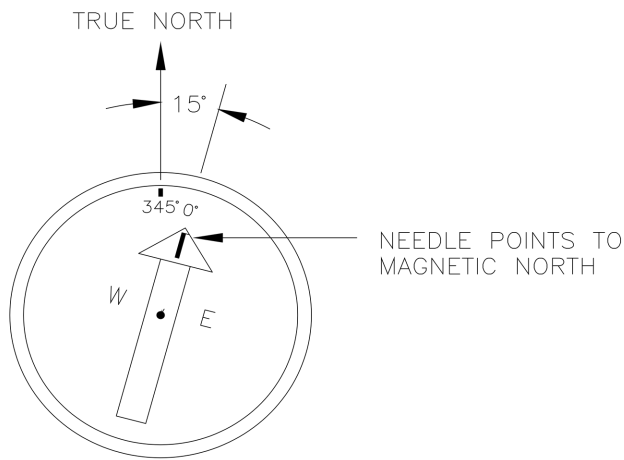
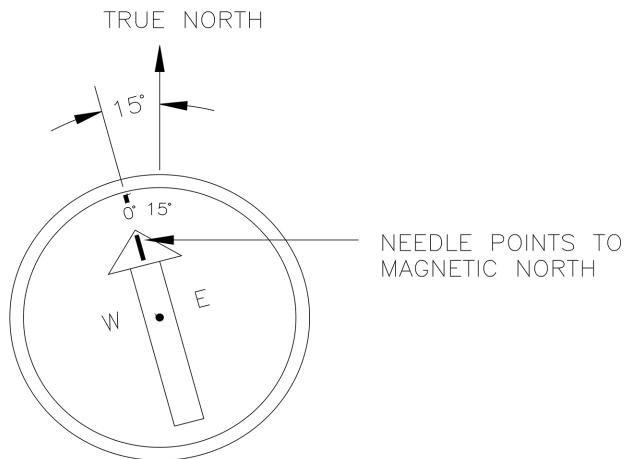

Figure A-2. Declination angles east of true north are subtracted from 360 to get true north
Figure A-3. Declination angles west of true north are subtracted from 0 to get true north
Declination angles east of true north are reported as positive values and are subtracted from 360 (0) degrees to get true north as shown in Figure A-2 (p. 70). Declination angles west of true north are reported as negative values and are subtracted from 0 (360) degrees to get true north as shown in Figure A-3 (p. 70). Note that when a negative number is subtracted from a positive number, the resulting arithmetic operation is addition.